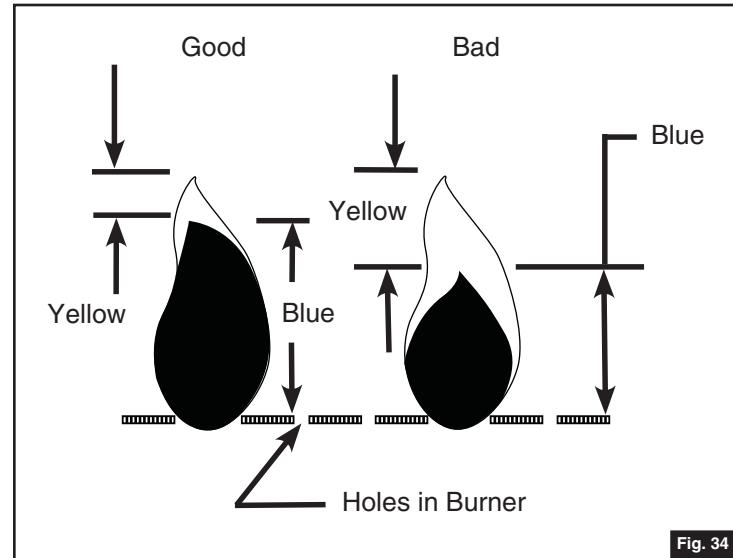

Fig. 34
- Flames should appear similar to the good flame shown in Fig. 34 and as follows: